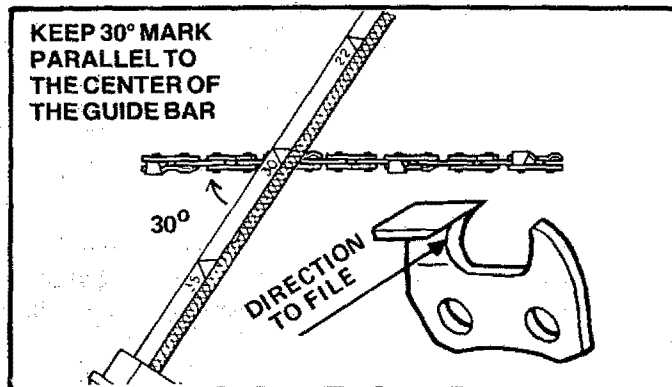

Figure 39
- b.) Hold the file holder level with the 30° guide mark parallel to the center line of the bar. Figure 39.
- c.) File from inside toward outside of cutter in one direction only. Figure 39.